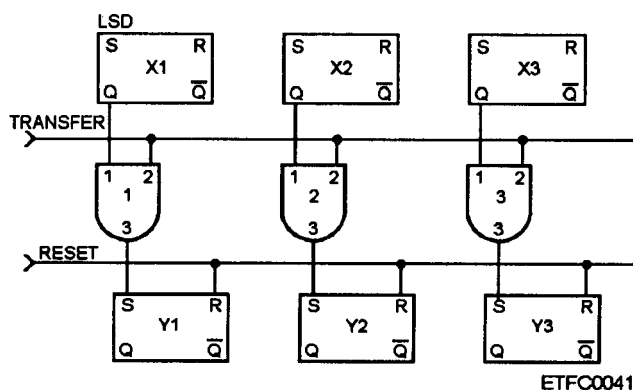

Figure 4-24.—example of a single-line parallel one-side transfer.
- **Single-line parallel transfer (direct method)**—Only 1's or 0's are moved in a bit-for-bit, order-for-order method. The receiving register is cleared of its contents before the transfer occurs. If 1's are transferred, it is referred to as a one-side transfer. If 0's are transferred, it is referred to as a zero-side transfer. See figures 4-24 and 4-25 as examples.